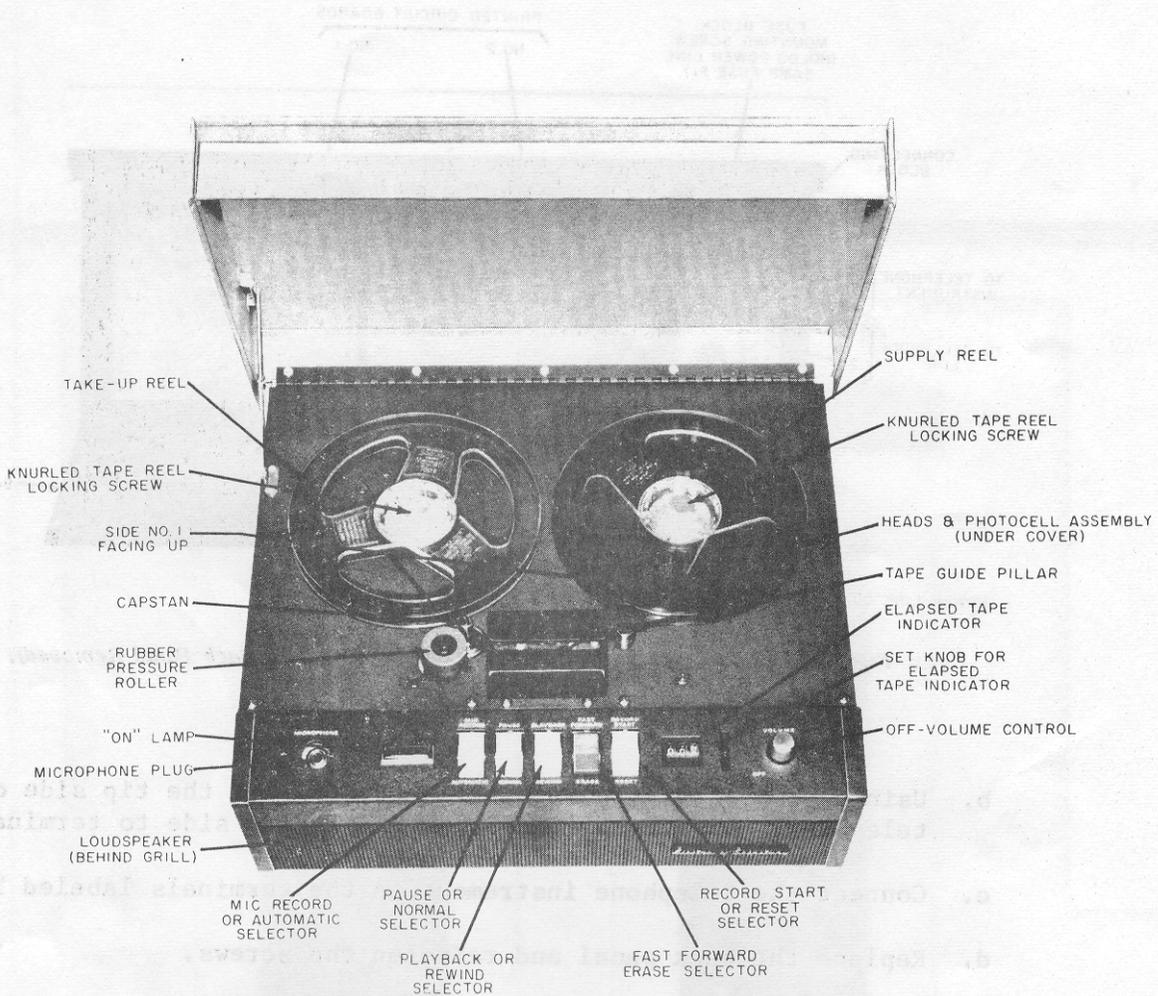

Figure 3. Monitor Recorder, Model MR-2 (Top of Tape Deck and Controls).
- a. Remove both tape reel locking screws (see Figure 3).
- c. Place the full reel of tape on the right-hand (supply) reel platform as shown in Figure 3.
3.01 The Model MR-2 performs the following basic functions: (1) Microphone record; (2) Automatic record; (3) Playback; (4) Fast-forward; and (5) Rewind. Manually controlled erasing is possible during rewind. Protection against accidentally unwinding the tape from either reel is also included. "Fail-safe" circuitry prevents tape spillage in the event of power interruption. Other electrical safeguards insure smooth transfer of operation from one function to another. The unit is capable of remaining in a standby condition, during which time the MR-2 is ON and waiting to perform any of its functions. In standby the forward and rewind motors are energized, each with approximately 15-20v a-c. Equally energized, the motors tend to pull the tape in opposite directions, thus maintaining tape tension. When the customer selects one of the functions by depressing the appropriate rocker bar, the unit proceeds from standby to whichever function has been selected. The following paragraphs, in conjunction with Figure 3, explain the basic functions. *The information contained in this part should be referred to when instructing the customer on the operation of the unit.*